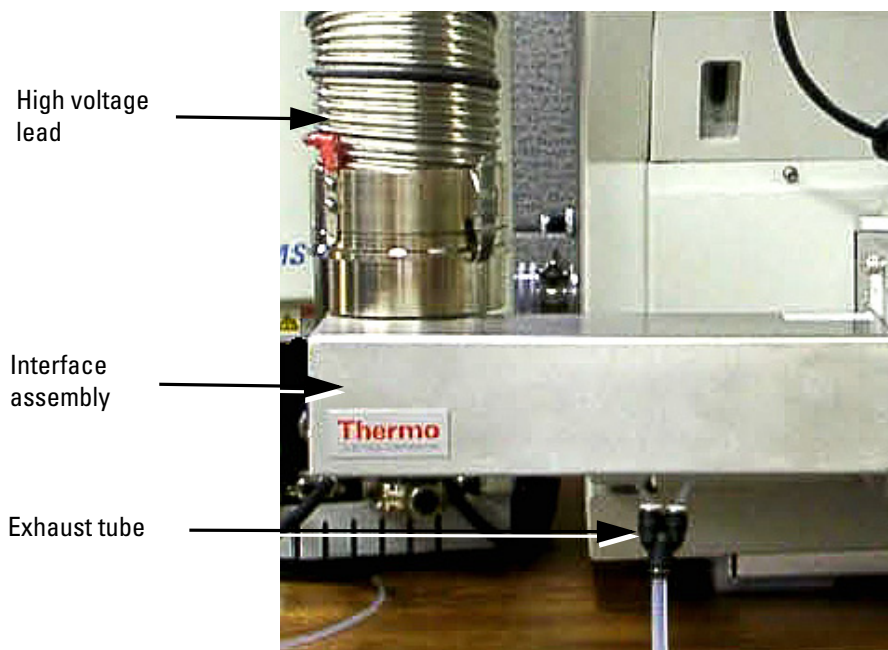

Figure 56. FAIMS interface, showing the high voltage lead and exhaust tube
2. Unclip and disconnect the high-voltage lead from the high-voltage adapter on the interface assembly, as Figure 56 shows.
3. Disconnect the exhaust tube from the heater box, as Figure 56 shows.